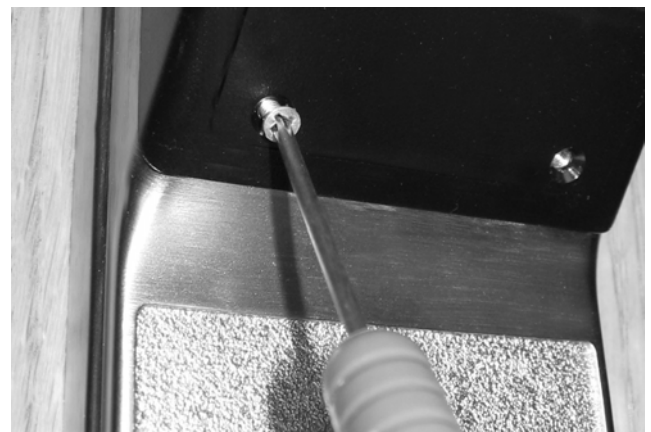

FIG. 19: SECURE BATTERY COVER
- Secure the battery cover to the inside housing with two black 4-40 x 1/4 flat head Phillips or spanner head security screws. See Fig. 19.